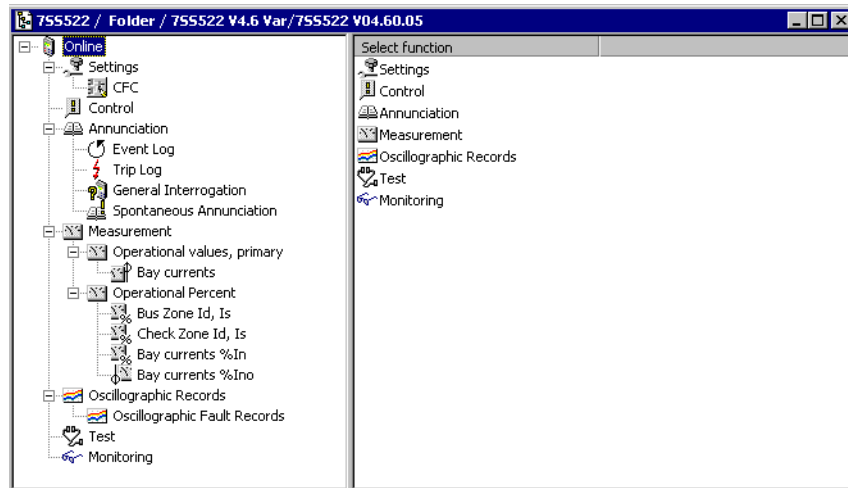

Figure 6-1 Annunciation groups in the DIGSI Device Configuration
- Click the folder **Online** in the navigation window of the DIGSI Device Configuration. This will open the directory containing the operating functions of the device (see Figure 6-1, page 243).